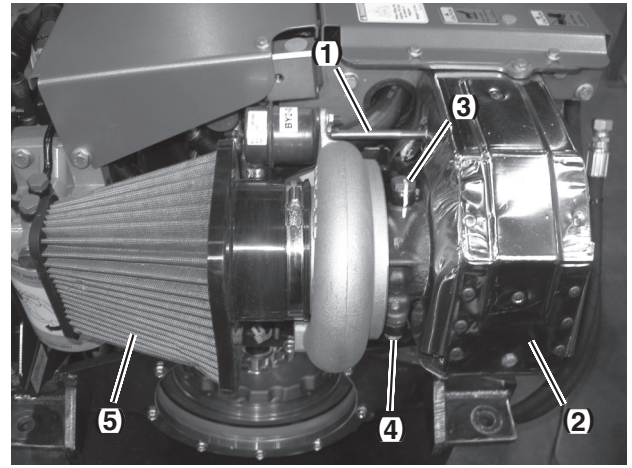

Figure 9-5
5. Install new gaskets and connect lubrication return line (**Figure 9-5, (4)**) and supply line (**Figure 9-5, (3)**).
6. Install insulating cover (**Figure 9-5, (2)**) and connect wastegate control rod (**Figure 9-5, (1)**).
7. Install air filter (**Figure 9-5, (5)**).